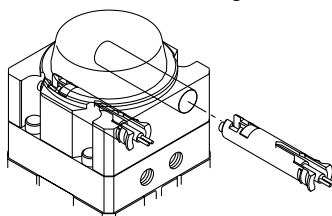

Figure 1
3. Install the switch case, with a switch attached securely in the hole, in the direction indicated in Figure 1.